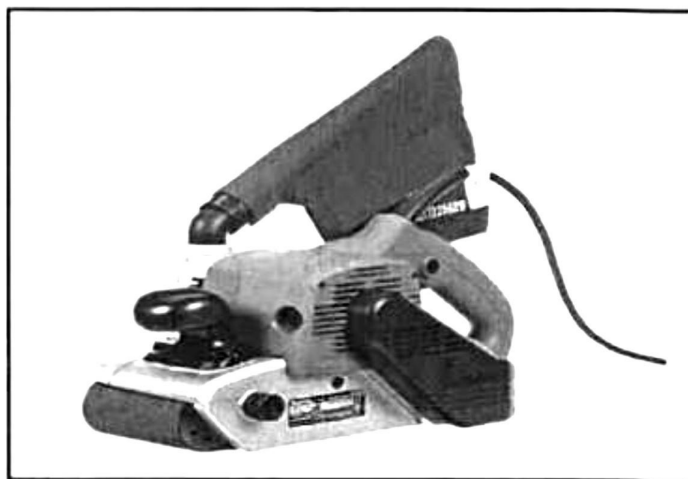

FIGURE 5.1
5.1 FIGURE 5.1 below shows an electrical hand tool. Study the picture and answer the questions that follow.